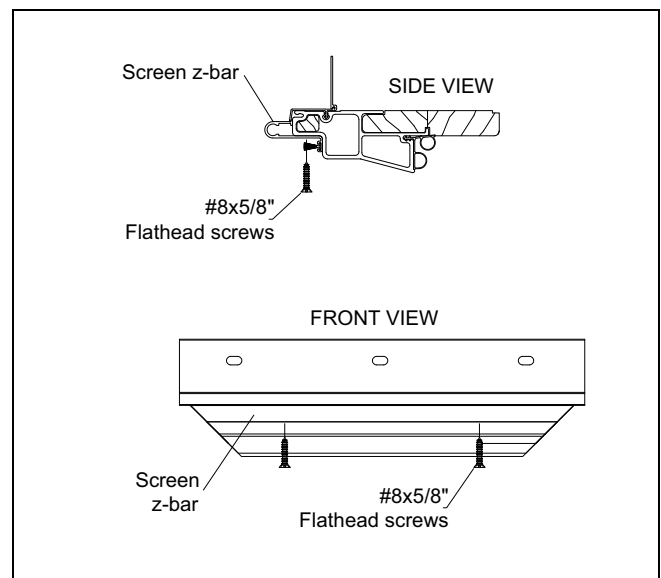

Figure 1
- Position the head jamb screen z-bar along the head jamb and center left to right in the opening. Using the pre-punched holes in the z-bar as a template, drill a 7/64" (3) hole in the door head jamb near the center. Drill only through the first Ultrex wall. Secure the z-bar with #8 x 5/8" mounting screws as shown in figure 1. Repeat this procedure for the remaining screw holes.